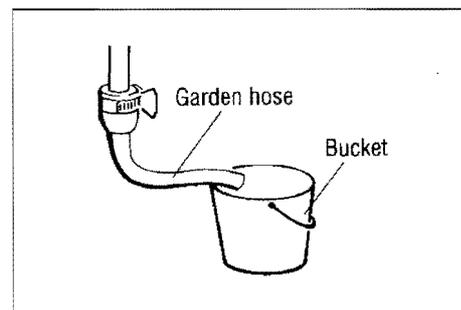

Figure 2.11
2.11 Before making the final water connections to the shower heater, the pipework **MUST BE FLUSHED THOROUGHLY** to remove brick dust, swarf etc. which could severely damage the shower itself (See Fig. 2.11).